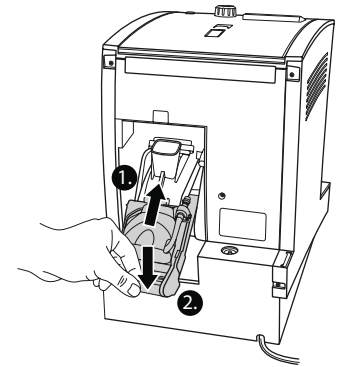

Fig. 14: Inserting the brewing unit
7. Insert the brewing unit into the machine from behind and push it in as far as it goes (Fig. 14).